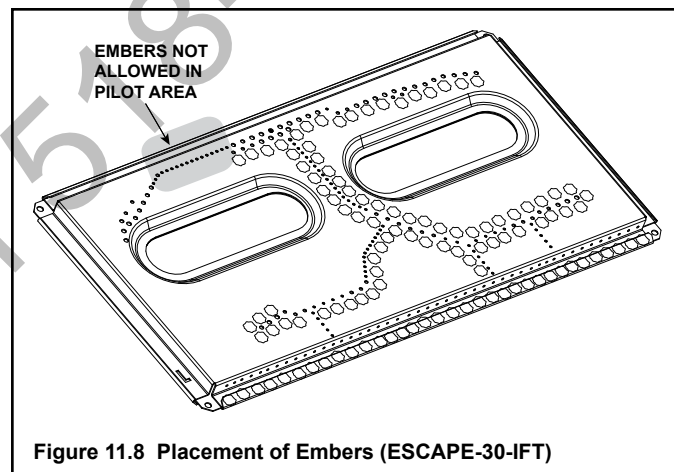
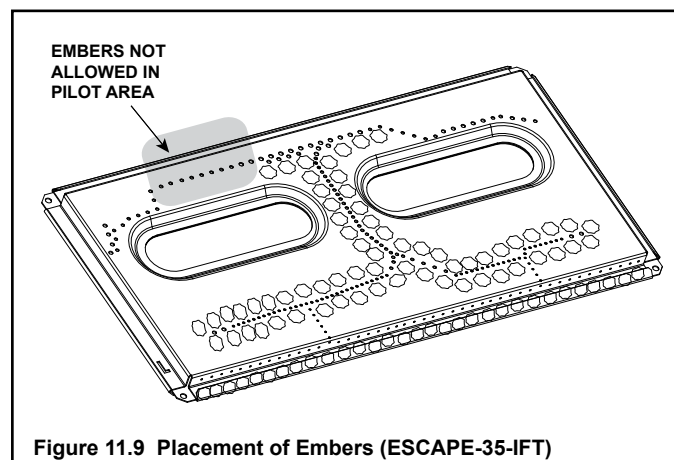

Figure 11.8 Placement of Embers (ESCAPE-30-IFT)
Figure 11.9 Placement of Embers (ESCAPE-35-IFT)
- Place dime-size pieces of Glowing Embers® just in front of the port trail, but not on or in between the ports. See Figure 11.8 (ESCAPE-30-IFT) or Figure 11.9 (ESCAPE-35-IFT). Care should be taken so that the ports are not covered. Failure to follow this procedure will likely cause lighting and sooting problems.